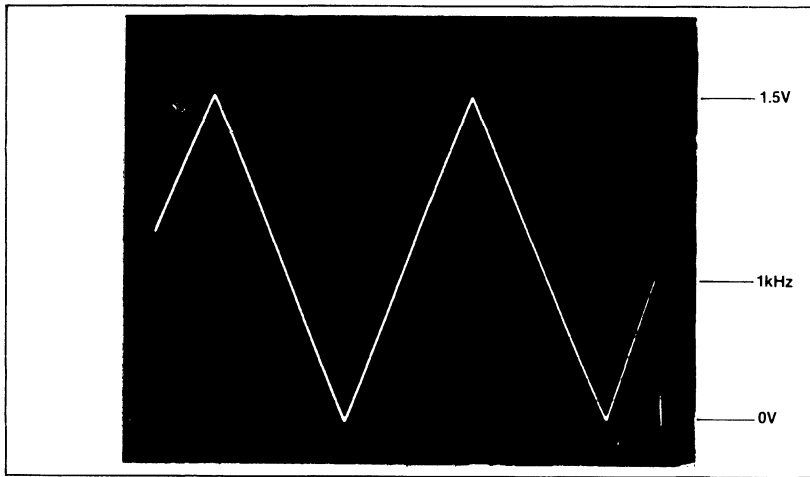

Fig.8 Test waveform at first SP9754 input TP(1)
1. Set a triangular wave at the input with a similar amplitude and offset as the analogue signal eventually to be used. Set RV2 (gain) and RV1 (offset) for signal levels as below Fig.8 at TP(1). If this signal level cannot be met, RV1 can be connected to 12V or 0V by changing the link.